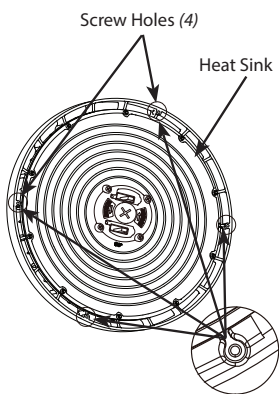

Fig. 1
1. Align the Refractor screw holes with the Heat Sink as shown in Fig. 1, and 2.